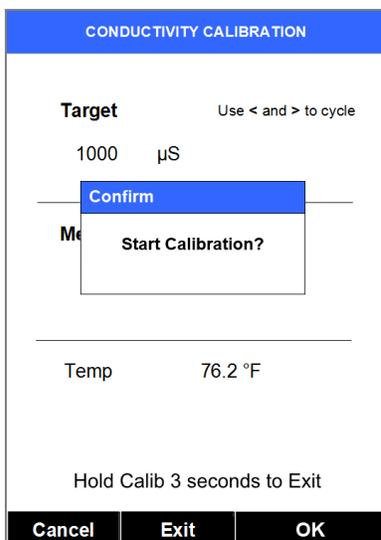

Figure 12
- 8) Press OK key (labeled Calib) to confirm the specific Conductivity calibration desired. The screen will update as in Figure 12.